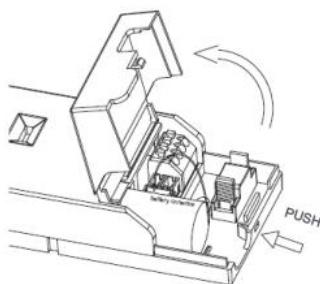

Fig. 1
- With the aid of a small terminal screwdriver open the terminal covers by pressing into the securing slots at either end to release the covers. (see Fig. 1)